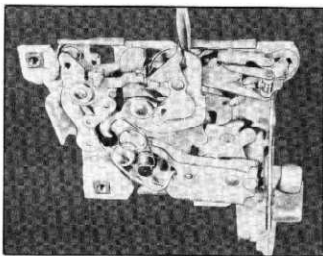

Fig. 48—Lock to Conventional Operation
3. To place lock in conventional operating position, trip link in the direction indicated by the arrow (fig. 48).